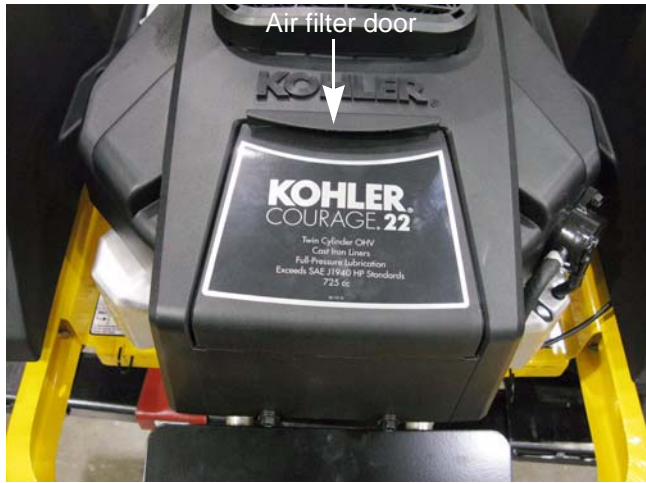

Figure 8.3
1. Swing open the air filter cover located at the back of the engine. See Figure 8.3.